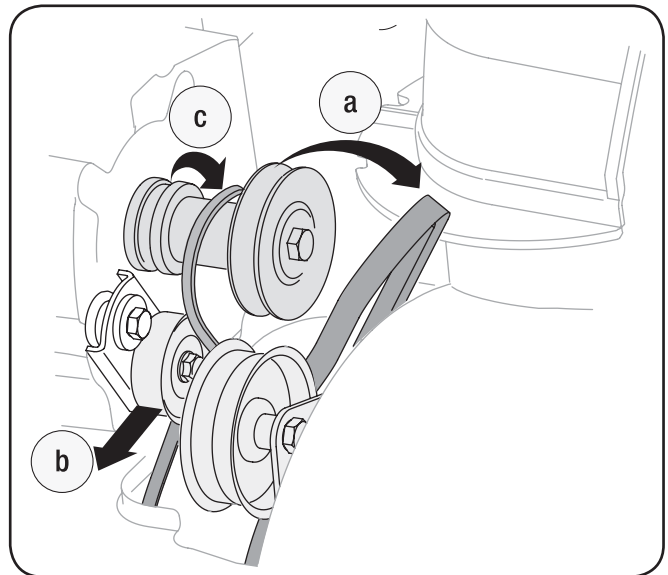

Fig. 7-7
3. Remove the belt as follows. See Fig. 7-7: